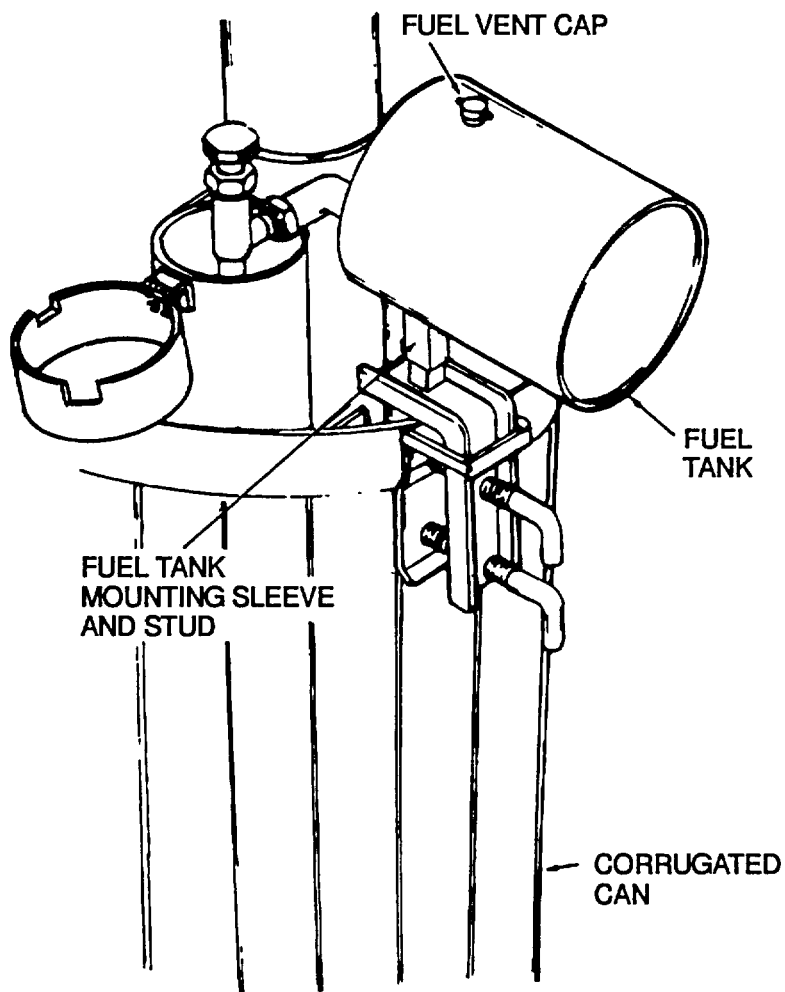

Figure 4-1. Emptying Fuel Tank
- b. Open the fuel tank vent plug and remove the filler plug and drain the fuel tank observing for the presence of water in the tank (Figure 4-1).
- (1) Refill the fuel tank, through the filler plug, with gasoline after dosing vent plug.
- (2) Close the filler plug.
- (3) Reinstall the fuel tank on the square stud on the heater mounting bracket.